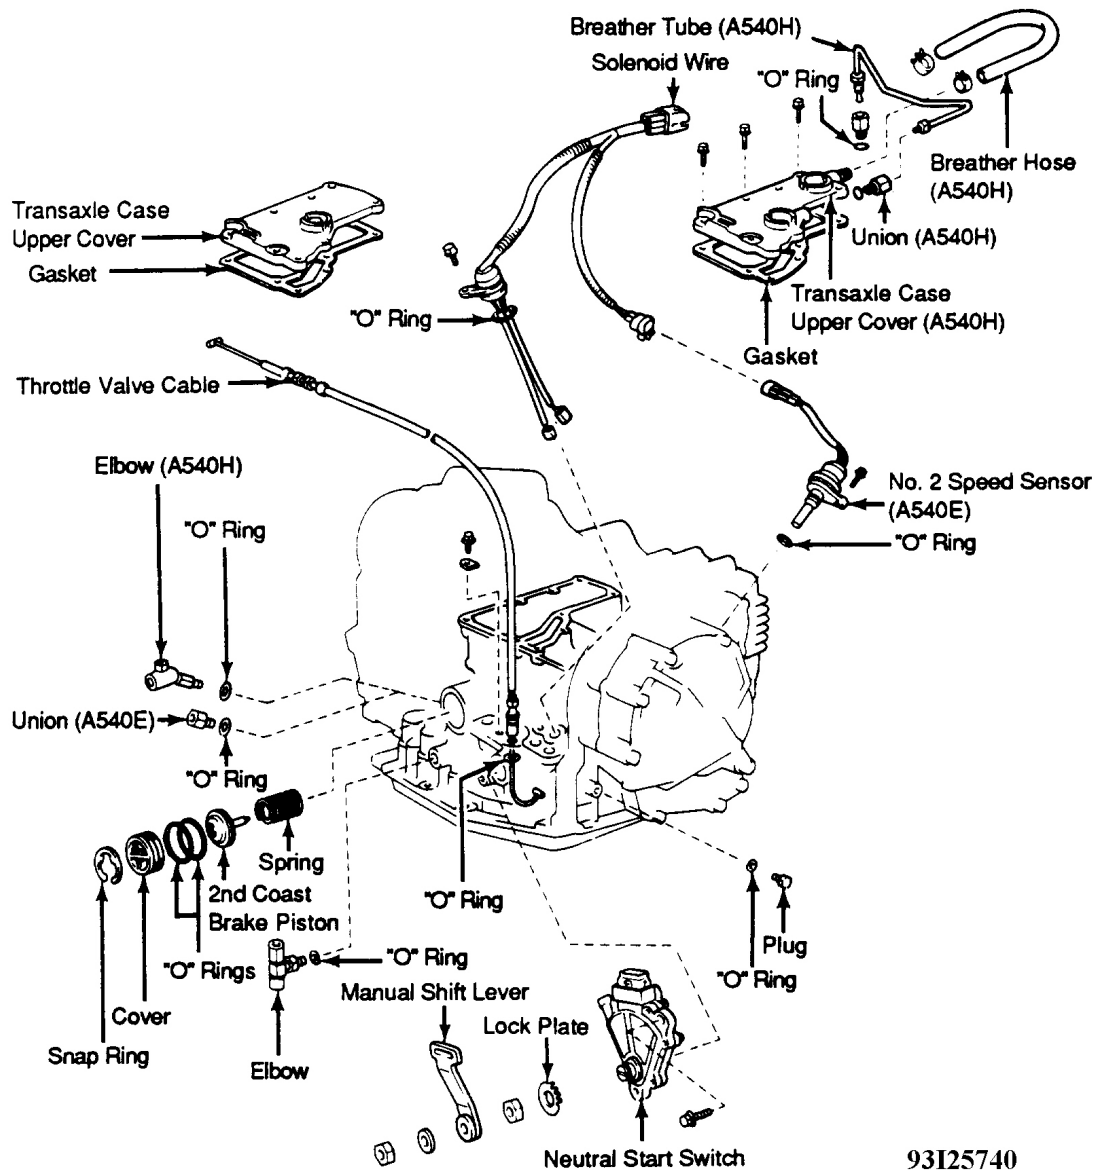

Fig. 11: Exploded View Of External Components (A-540E & A-540H)
2. On all models, remove manual shift lever and neutral start switch. Remove throttle cable bolt and plate. Remove solenoid wire bolt. See Fig. 10 or Fig. 11 .